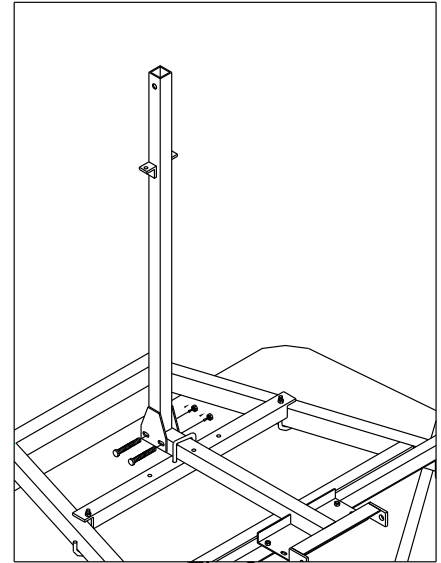

Fig. 3
3. Slide vertical upright (7) over frame (33). (NOTE: eyebolt brackets on upright should be located toward front of frame assembly.) Align slots on upright with holes on frame and mounting brackets from kit (if required). (Fig.3) Join frame and upright (and bracket if required) with 3/8" x 2 1/2" HHC, flat washers and 3/8" whizlock nuts. Do not tighten.